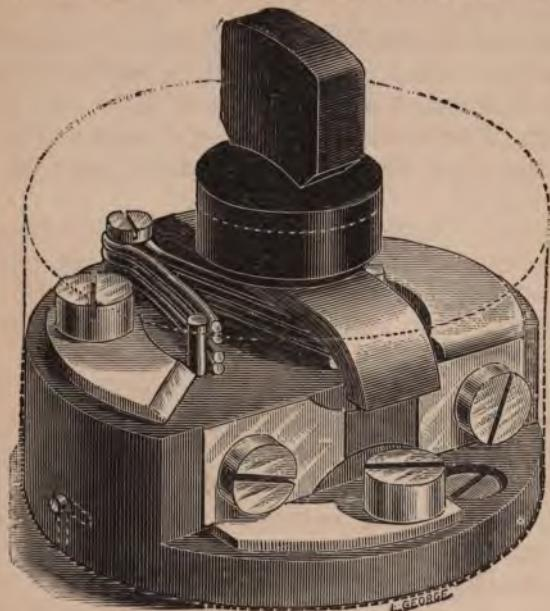

Fig. 65.—Switch and Fuse combined.
*Combined Switch and Cut-out Fuse.*—A very useful form of switch is that in which a fuse is fitted, as represented in the front of Fig. 65. The fuse usually